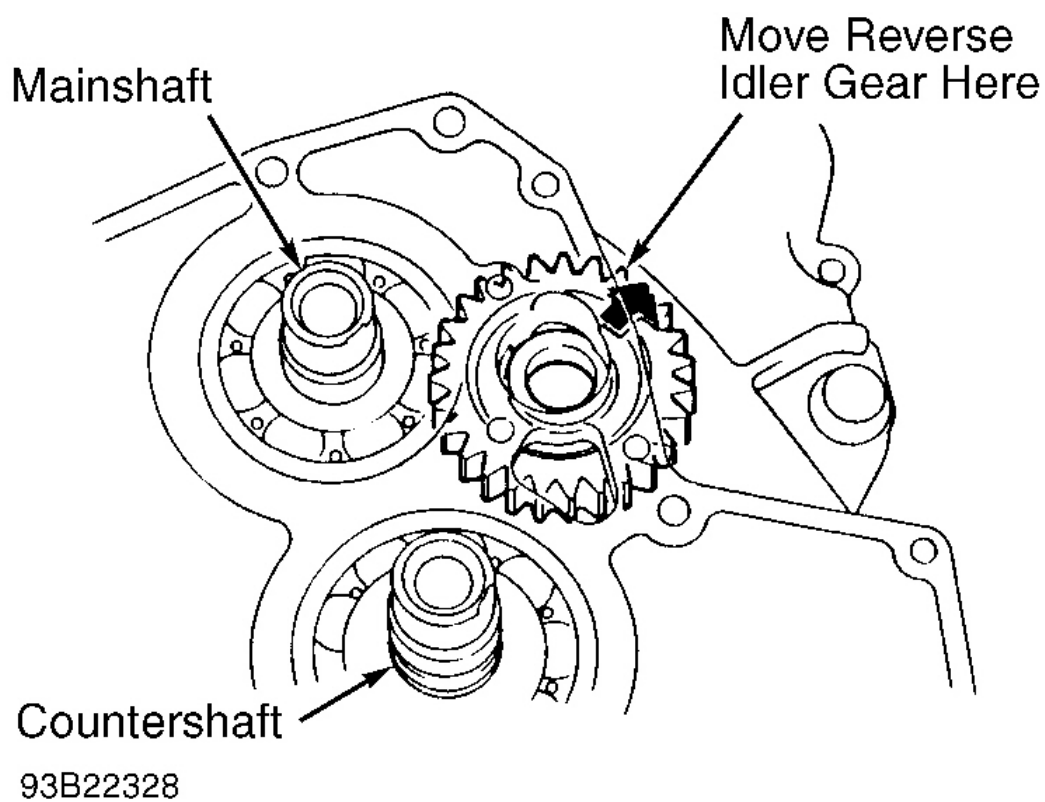

Fig. 7: Positioning Reverse Idler Gear
6. Move reverse idler gear to disengage from countershaft reverse gear. See **Fig. 7** . Align spring pin with groove in transaxle housing by rotating shaft. Using Puller (07HAC-PK4010A), remove transaxle housing. See **Fig. 8** .